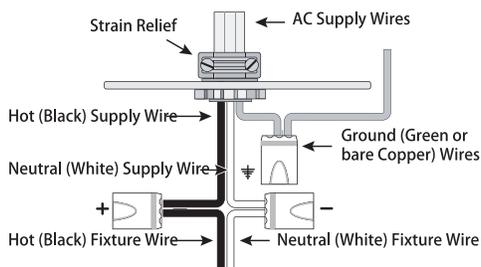

Figure 10
5. Make the connections. Use connectors suitable for #12-14 AWG solid core wire (Fig.10).